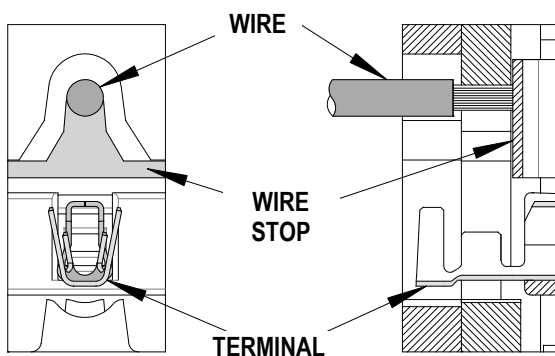

Figure 6
- On some large O.D. wires, it may not be possible to insert the wire with the tool partially closed. Those wires should be inserted with the hand tool in the open position. Insert the wire above the terminal in the punch and against the wire stop then close the tool. See Figure 6.